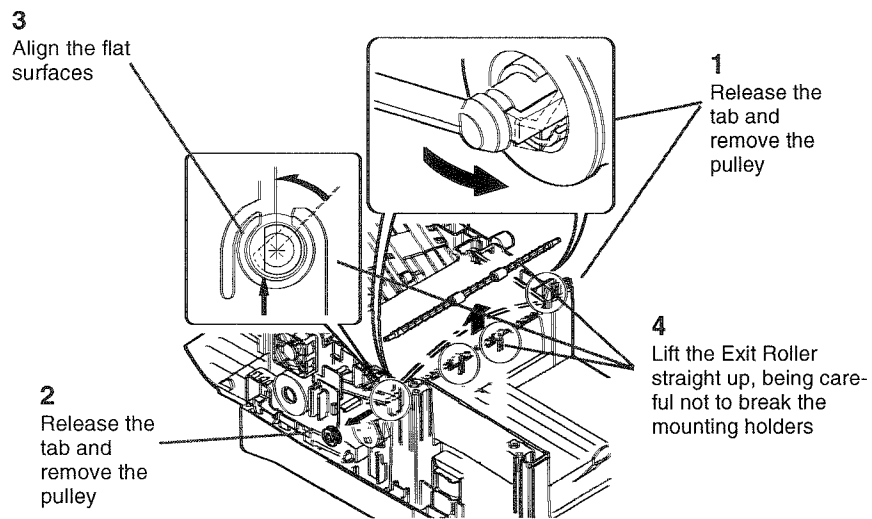

Figure 2 Removing the Exit Roller
3. ( Figure 2): Remove the Exit Roller.